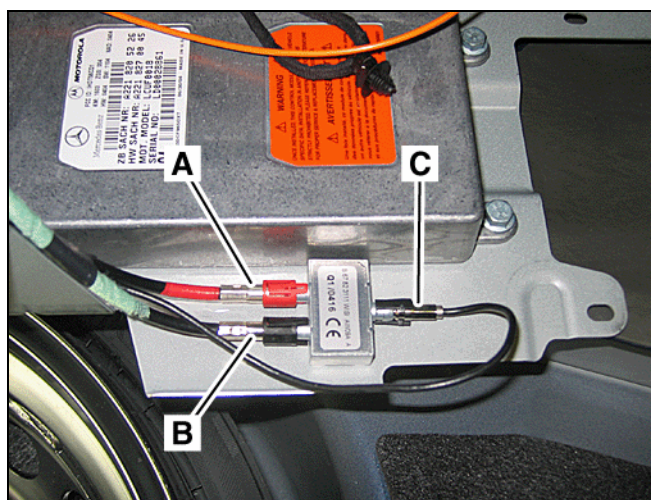

Figure 13
- a. Connect the male antenna lead to the output jack—with the red retainer clip—of the antenna splitter (A, Figure 13).
- b. Connect the pre-wired antenna lead to the output jack—with the black retainer clip—of the antenna splitter (B, Figure 13).
- c. Connect the female antenna lead with the retainer clip to the input jack of the antenna splitter (C, Figure 13).